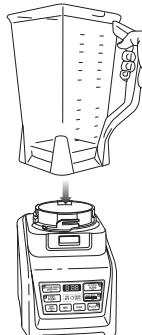

Fig. 1
- 3 Align and lower the Pitcher onto the motor base. **(Fig. 1)** Handle should be aligned slightly to the right of the "LOCK" symbol on the motor base.